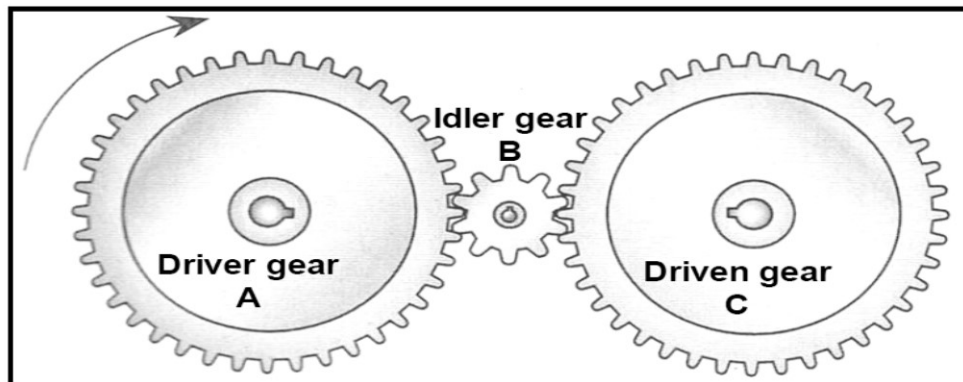

FIGURE 4.9
- D 1 N acting on 1 mm². (1)
- 4.9 FIGURE 4.9 below shows three gears meshing. What is the purpose of idler gear **B**?